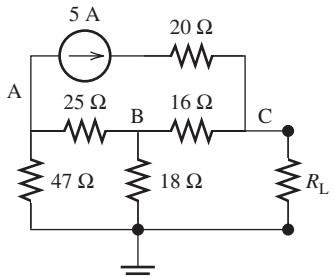

FIGURE P3.56 Circuit for Problem 3.56.
- 3.56** (A) Find the Thévenin equivalent circuit as seen by R_L in Figure P3.56.